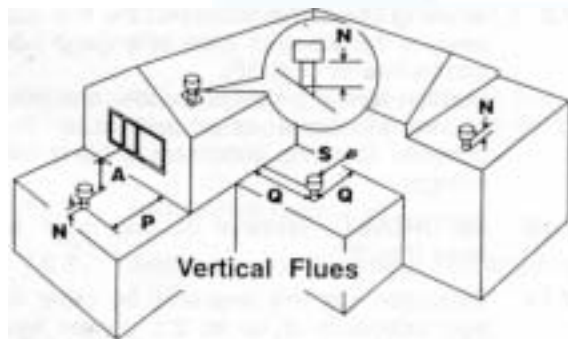

Fig. 42
-Ensure that the maximum permissible flue length is not exceeded (Fig. 42).
Measure the vertical distance between the top of the flue (Fig. 42) and the bottom of the flue terminal assembly (Fig. 41). The measurements should be taken from the outer diameter of the flue.